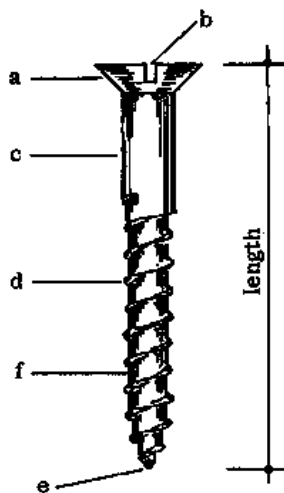

Fig. 1
- Countersunk head screws (Fig. 1, page 210)
- COUNTERSUNK HEAD SCREWS: The head of this kind of screw is flat on top and tapering underneath. The length is measured from the point to the top of the head (Fig. 1, page 210).